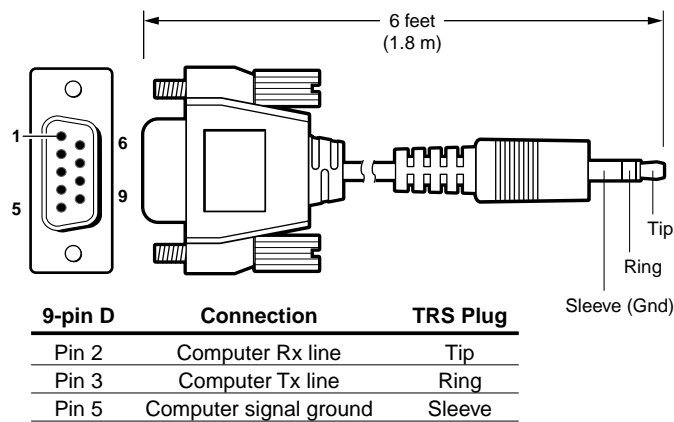

Figure 9. Optional 9-pin TRS RS-232 cable
- ⑭ **Configuration port** — This 2.5 mm mini stereo jack serves the same serial communications function as the rear panel Remote port, but it is easier to access than the rear port after the matrix switcher has been installed and cabled. The optional 9-pin D to 2.5 mm mini jack TRS RS-232 cable, part number **70-335-01** (see figure 9), can be used for this connection.